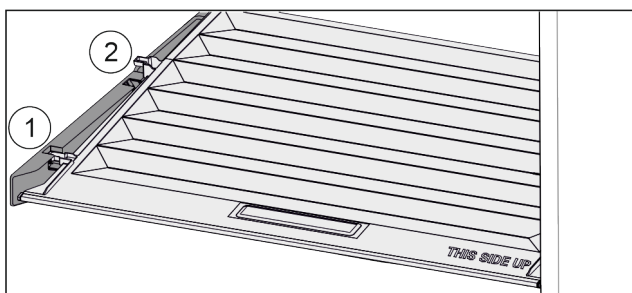

Fig. 27
- Pull the lid up at the front in the retaining parts to the opening Fig. 27 (1).
- Lift from the back and pull it up and out Fig. 27 (2).